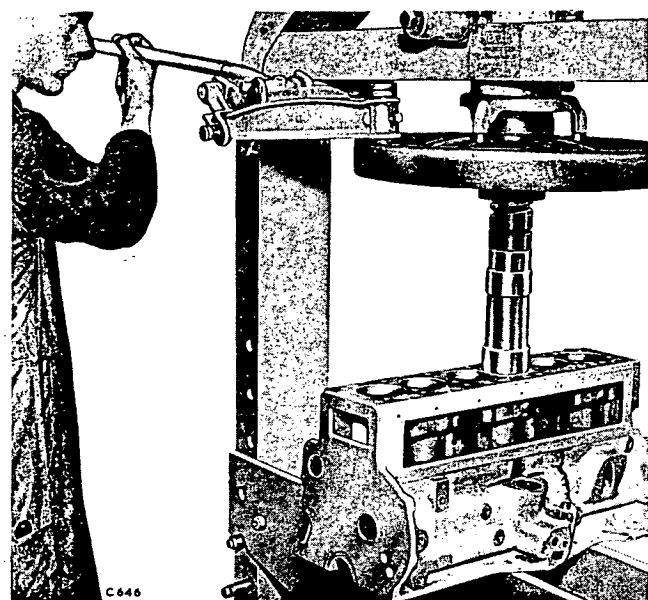

Fig. 10. Removing and refitting cylinder liners.
- (A) Using a hand press only and a special spigot Fig. 9 as illustrated in Fig.10
- (B) By offsetting the bore in boring machine and cutting down the side of the liner until it can be collapsed and taken out. It should be noted that the wall thickness is only approximately .050 inch (1.27 m.m) when new and careful boring is necessary to avoid cutting past the liner into the cylinder block.
Lightly oil the cylinder bore and the external surface of the liner and with the assembly beneath the ram of a press capable of exerting the load given in General Data, press the liner steadily into the cylinder bore until level with the cylinder block face. See Fig.10